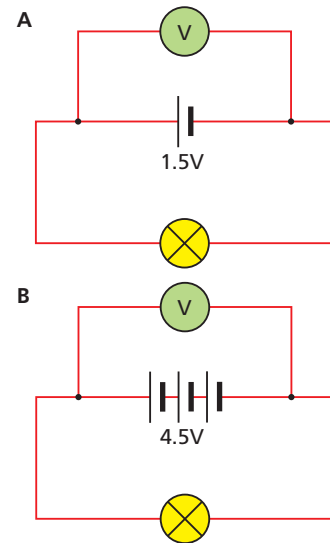

FIGURE 2.6.12b: Measuring the voltage across cells
2. Figure 2.6.12b shows two circuits, one with one cell and the other with three cells. If, instead, there were two cells, what reading would the voltmeter give?
3. In which of the circuits in Figure 2.6.12b will the light bulb be the brightest? Explain your answer.